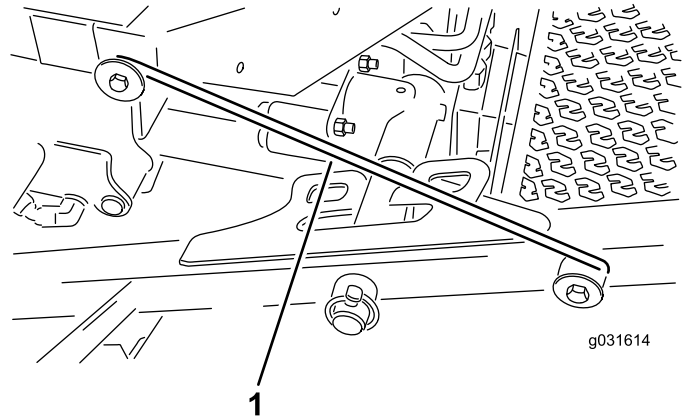

Figure 33
4. Release the latch rod from the front carrier-frame retainer (Figure 33).
5. Lift the outside of the front cutting units and place the latch over the frame pin mounted on the front of the operator's platform (Figure 33).